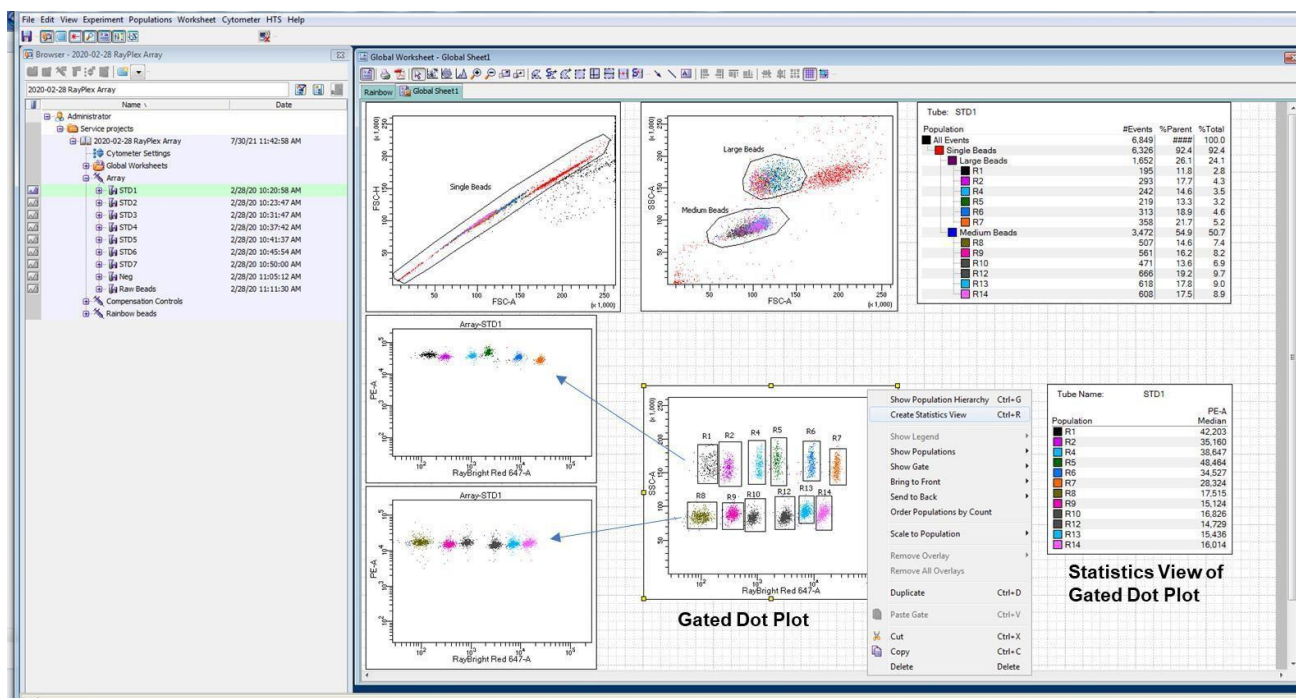
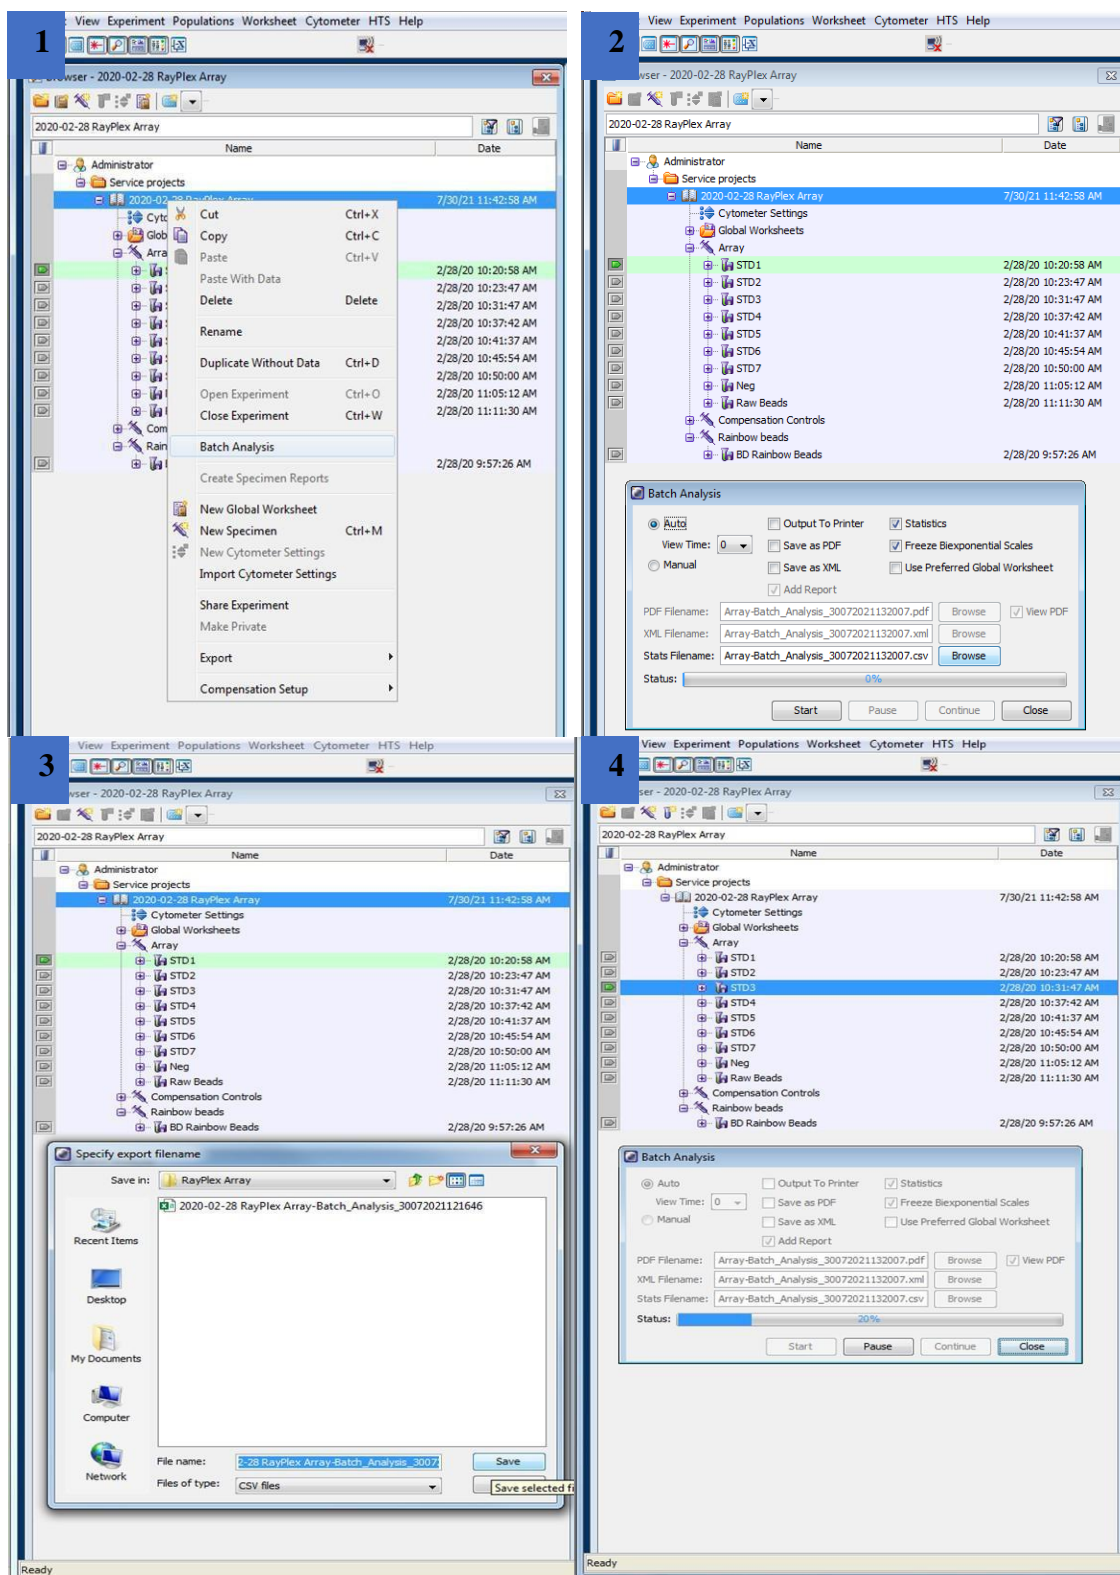

Figure 4. Screenshot of Creating Statistics View from the dot plot of gated beads populations. This is representative data only.
Figure 5. Screen shot showing how to begin the batch analysis through manual tube mode.
Batch analysis allows exporting PE MFI data of each bead population directly from FACS Diva. Before batch analysis, it's important to create statistics view from the dot plot of gated beads populations and choose “PE-A Median” to be shown (Figure 4). Batch analysis can be done in either manual tube mode or HTS mode. Both methods for batch analysis are described below (Figure 5 and 6).
1. Create a dot plot by SSC-A (linear) and APC-A (log) to show all beads populations and make a gate for each population (see figure 4, “Gated Dot Plot”, R1~R14). Right click on the dot plot to “Create Statistics View”, then edit the statistics view so that “PE-A Median” of gated beads populations are shown (figure 4, “Statistics View of Gated Plot”).